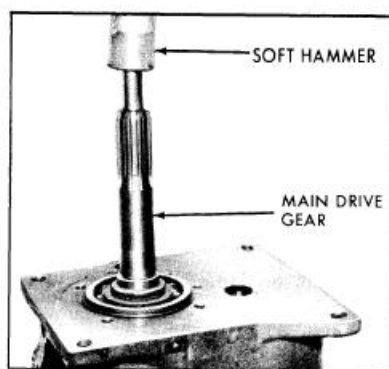

Figure 4-11—Removing Front Bearing
19. If it is necessary to remove main drive gear bearing use a soft hammer, tap gear down through bearing as shown in Figure 4-11.